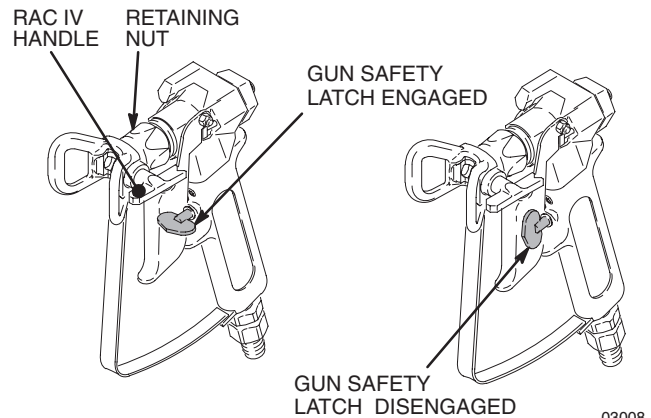

Fig. 5
- a. Open (handle down) pressure drain valve (G). If no secondary hose is installed, be sure secondary outlet cap is installed. Turn ON/OFF (L) switch ON. Slowly turn pressure adjusting knob clockwise until sprayer starts. When fluid comes from drain hose, close pressure drain valve (handle forward).
- b. Fig. 5. Disengage gun safety latch. Following warning, above, trigger gun until all air is forced out of system and paint flows freely from gun.
8. Fig. 5. Engage gun safety latch. Install spray tip. Install tip guard. See manual 308–644, supplied.
- Test spray pattern. To adjust pattern, engage gun safety latch, loosen retaining nut. Position tip guard horizontally for horizontal pattern or vertically for vertical pattern. Then tighten retaining nut. Fig. 5.
- If spray tip clogs, release gun trigger, engage gun safety latch, and rotate RAC IV handle 180°. See Fig. 5.